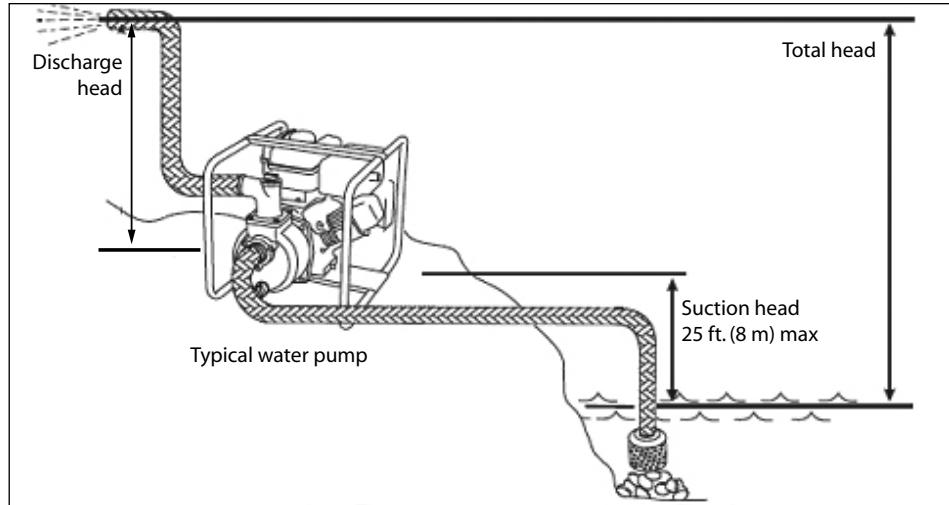

FIGURE 1
Use this pump for water only, where the vertical suction head from the water level is 25 ft. (8m) or less. Head refers to the height of a column of water that can be delivered by the discharge of the pump (Figure 1). Suction head (or suction lift) is the vertical distance between the center of the pump and the surface of the liquid on the suction side of the pump. Discharge head is the vertical distance between the pump's discharge port and the point of discharge. Total head is
- a) **LOCATION:** For permanent installation, put the pump in a clean, dry, and ventilated place (Figure 1). **Keep the suction line as short as possible.** This will allow the pump to operate at maximum performance and to ensure that the casing does not overheat due to the absence of water.